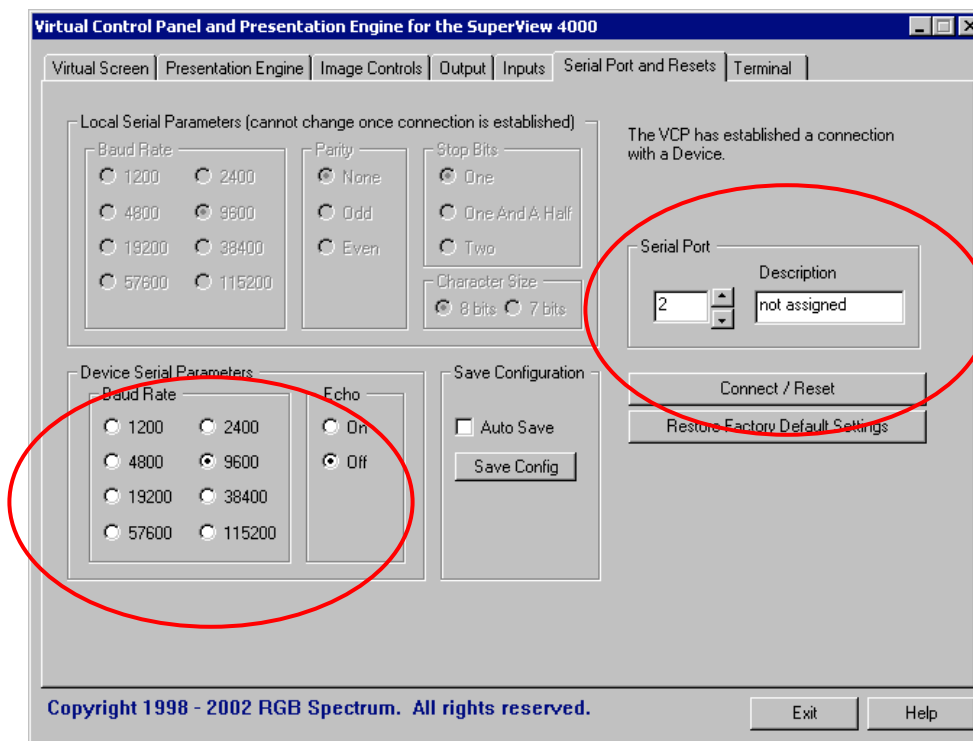

Figure 9. SV3000 VCP Serial Port Page
1. Select the VCP "Serial Ports and Resets tab" shown in **Figure 9** above.